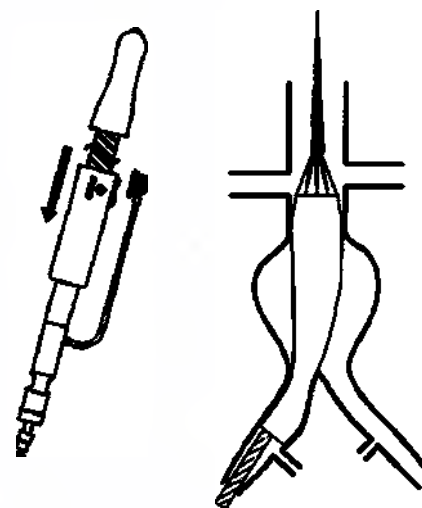

Fig.6 Withdraw outer sheath
- ♦ Rapidly deploy the stent graft. Hold the front grip of the delivery system stationary, then unlock the trigger and pull the slider grip along the screw gear to fully deploy the stent graft. (Fig. 6)